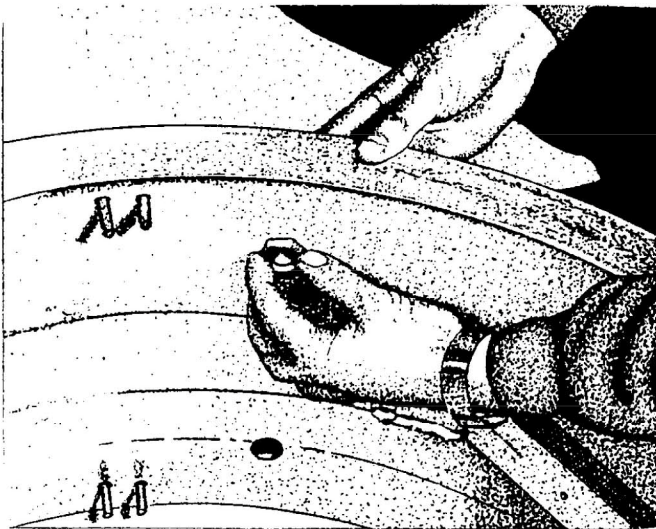

FIGURE 3
2. Refer to FIGURE 3. On the outside of the frame, insert the brass end and element inflation fitting through the hole in the top channel of the frame. On the inside of the frame, secure the brass end element inflation fitting using the star washer and hex nut supplied with the end element.